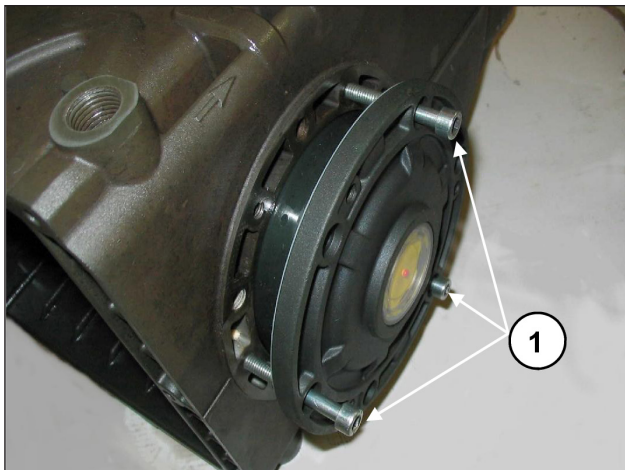
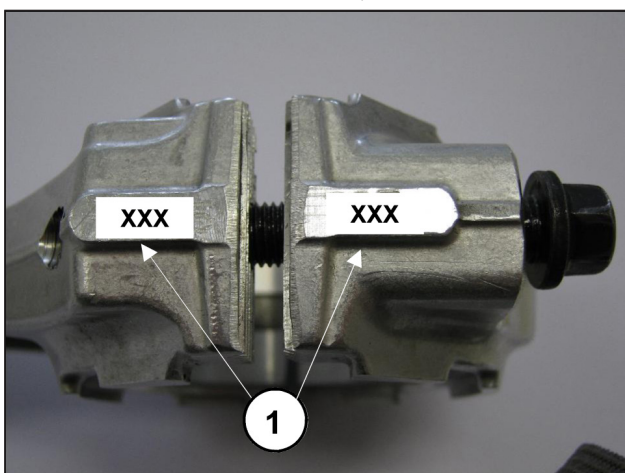

Fig. 8
Fig. 9
To facilitate filling of the first section and relative fitting of the covers on the casing, it is recommended to use 3 partially-threaded M6 x 40 screws, (Fig. 8, pos. ①) to then complete the operation with the screws supplied (M6x18).
- Couple the con-rod caps to their shanks, referring to the numbering (Fig. 9, pos. ①).
To move the two lateral covers near the guard, it is possible to use No. 3 screws M6x40 for a first orientation step, as indicated in Fig. 8, and the screws required for the final fixing.
After having removed the side covers as indicated in par. 2.1.1, remove the outer ring nut of the bearings from the relative covers and the inner ring nut with the remaining part of the bearing from the two ends of the shaft by means of a normal "pin punch" or a similar tool as indicated in Fig. 8 and Fig. 9.